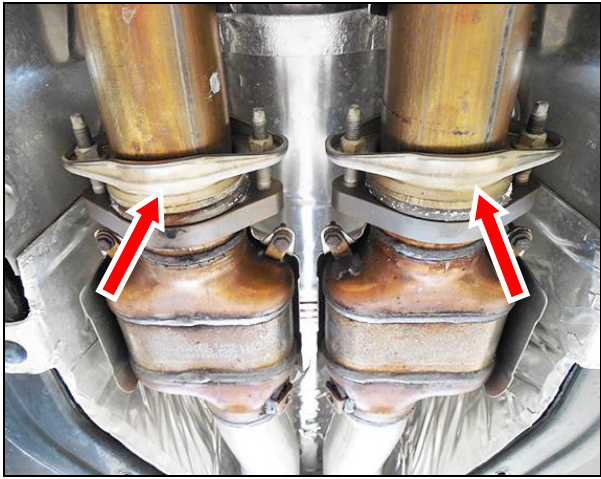
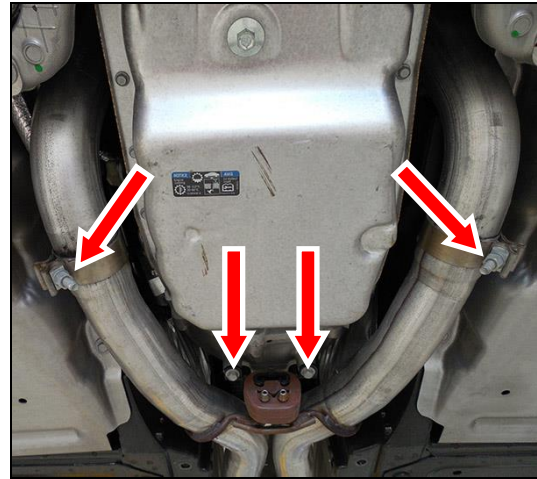

Figure 4
Figure 5
8. Support the X-pipe and remove the (x4) 15mm nuts at the flanges on the down pipes (**Figure 4**). Loosen the 15mm clamp bolts at the slip joint connecting the X-pipe to the over-axle pipes (**Figure 5**). Remove the (x2) 13mm bolts at the center support hanger on the X-pipe (**Figure 5**). Remove the X-pipe from the over-axle pipes.
6. Install the X-pipe with link pipes onto the down pipes. Install the 10mm x 60mm bolts and flange nuts. Tighten the nuts to allow for adjustment. Support the X-pipe assembly. Install the center support hanger assembly and tighten the (x2) 13mm bolts (**Figure 5**). Adjust the position of the link pipes if necessary and tighten the (x4) nuts.